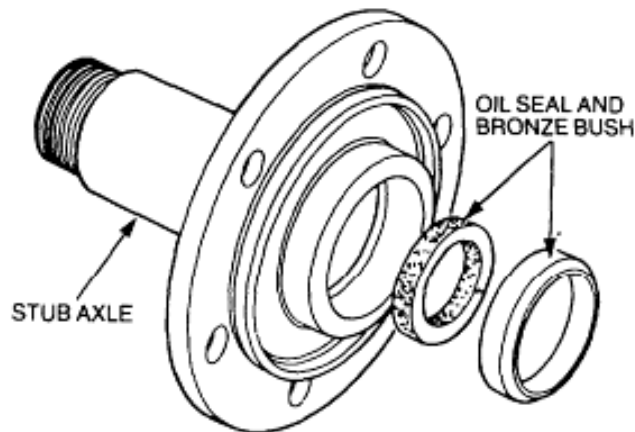

Figure 102 Stub Axle Oil Seal
- Using the adaptor (Table 3, Serial 9) and the impulse extractor Table 3 Serial 10), remove the oil seal and bronze bush from the stub axle (Figure 102). Discard the oil seal.
- a. Using a suitable press, install the oil seal and bronze bush in the stub axle (Figure 102).